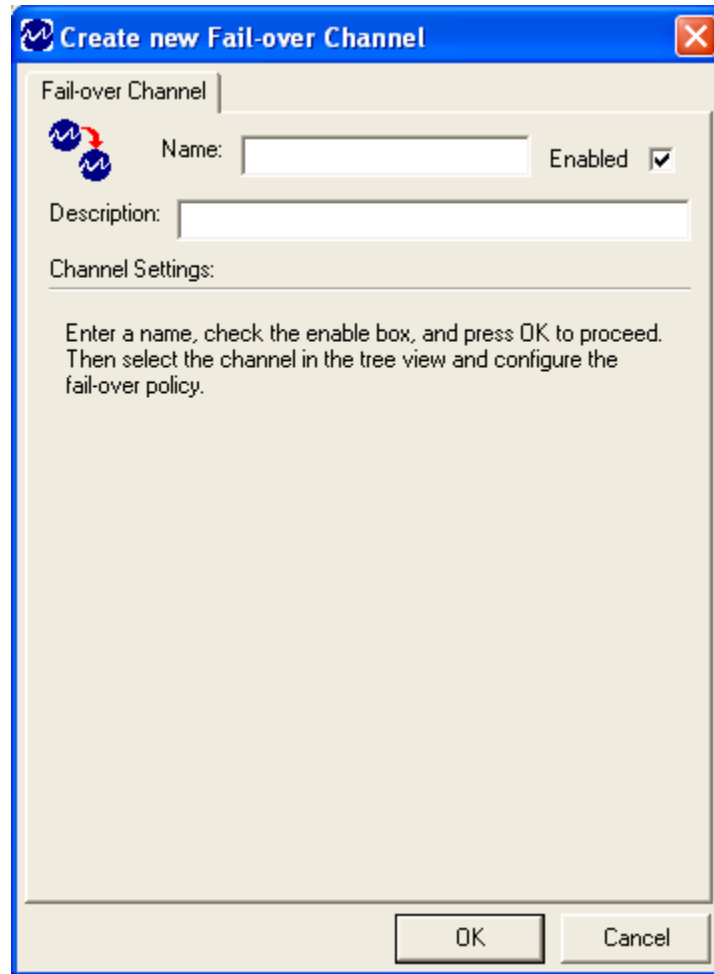

Figure 20 - Create New Fail-Over Channel Window
The **Create New** window (Figure 20) displays the settings available when creating a **Fail-over Channel** object.
5. The **Create New** window appears (Figure 20).